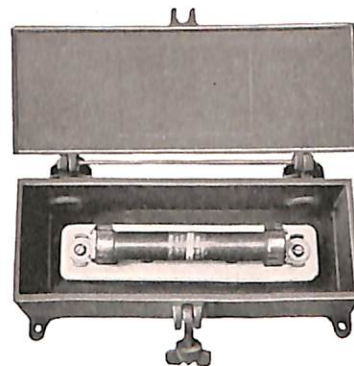

Fig. 15. Fuse Box with enclosed fuse
3. The Fuse Box, Fig. 15, which is used in place of the open fuse block.